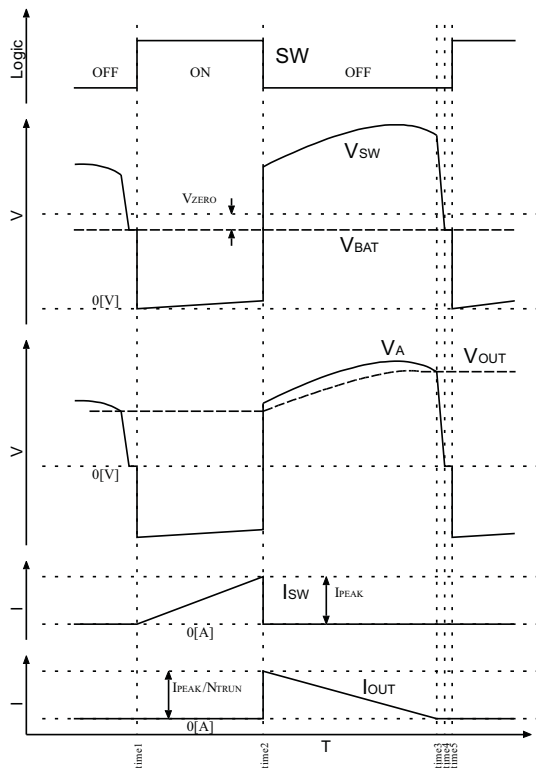
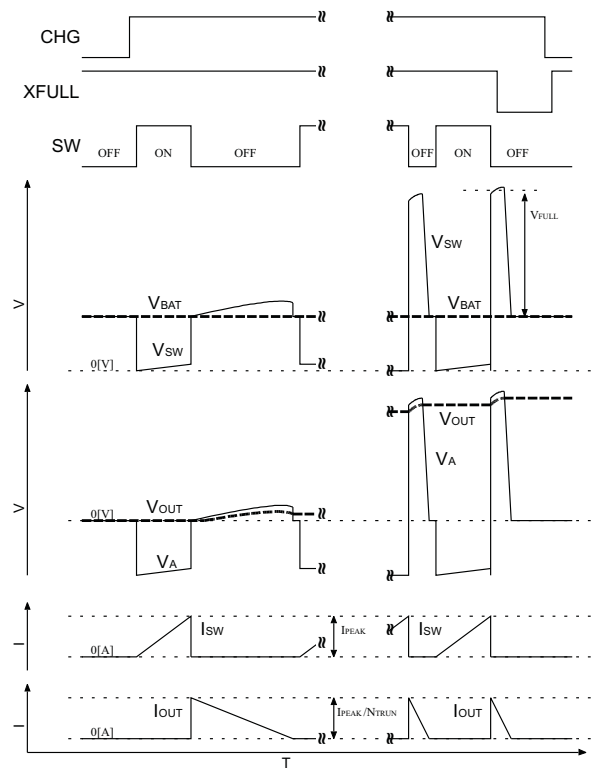

Figure 5. Timing Diagram at One Switching
Figure 6. Timing Diagram at Beginning/Ending
The device starts charging at timeH, and OVDS protection occurs at TimeI (see Figure 5). At TimeI, XFULL stays H. At TimeJ, the controller detects OVDS protection through the expiration of a timer ends and then sets  $CHG$  to low to terminate the operation.
The TPS65562 provides three comparators to control charging. Figure 2 shows the block diagram of TPS65562, and Figure 5 shows a timing diagram of one switch cycle. Note that emphasis is placed on Time1 and Time3 of the waveform in Figure 5.
While SW is ON (Time1 to Time2 in Figure 5), U3 monitors current flow through the integrated power switch from SW pin to GND. When I(SW) exceeds I(PEAK), SW turns OFF (Time2 in Figure 5).
When SW turns OFF (Time2 in Figure 5), the magnetic energy in the transformer starts discharging. Meanwhile, U2 monitors the kickback voltage at the SW terminal. As the energy is discharging, the kickback voltage is increasing according to the increase of VO (Time2 to Time3 in Figure 5). When almost all energy is discharged, the system cannot continue rectification via the diode, and the charging current of IO goes to zero (Times3 in Figure 5). After rectification stops, the small amount of energy left in the transformer is released via parasitic paths, and the kickback voltage reaches zero (Time3 to Time4 in Figure 5). During this period, U2 makes SW turn ON when (V(SW) - VBAT) dips from V(ZERO) (Time5 in Figure 5). In the actual circuit, the period between Time4 and Time5 in Figure 5 is small or does not appear dependent on the delay time of the U2 detection to SW ON.
U1 also monitors the kickback voltage. When (V(SW) - VBAT) exceeds V(FULL), the TPS65562 stops charging (see Figure 6).
In Figure 5 and Figure 6, ON time is always the same period in every switch cycle. The ON time is calculated by Equation 1. L and IPEAK are selected to ensure that tON does not exceed the MAX ON time (tMAX).